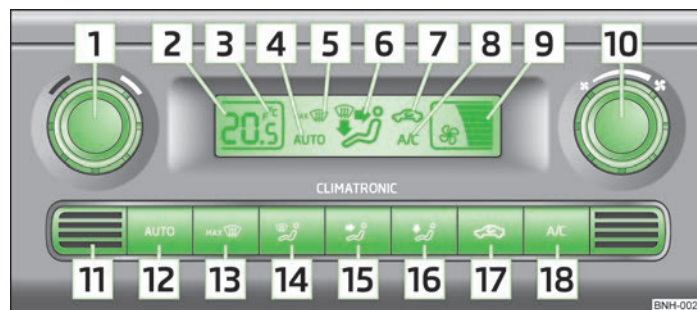

Fig. 61 Climatronic: Control elements
- > **AC** **18** » Fig. 61 on page 65 switched on.
- > Press the button **(AUTO)** **12** » Fig. 61 on page 65.
Press and hold the buttons **(AUTO)** and **(AC)** » Fig. 61 on page 65 at the same time. The information in the desired temperature measuring unit appears in the display.
The interior temperature sensor 11 » Fig. 61 is located in the bottom part of the device. Do not stick anything on or cover the sensor, otherwise it could have an unfavourable effect on the Climatronic.
- Press the button \(AUTO\) 12 » Fig. 61 on page 65; **AUTO** is shown in the display.
- The required interior temperature can be set with the control dial 1 » Fig. 61 on page 65 after switching on the ignition.
- Press the button \(🌀\) 17 » Fig. 61 on page 65; the symbol  appears in the display.
- Press the button \(🌀\) 17 » Fig. 61 on page 65 again and the symbol  disappears from the display.
- Turn the control dial 10 » Fig. 61 on page 65 to the left (reduce blower speed) or right (increase blower speed).
➤ Press the button   » Fig. 61 on page 65.
➤ Press the button   » Fig. 61 on page 65 again or press .